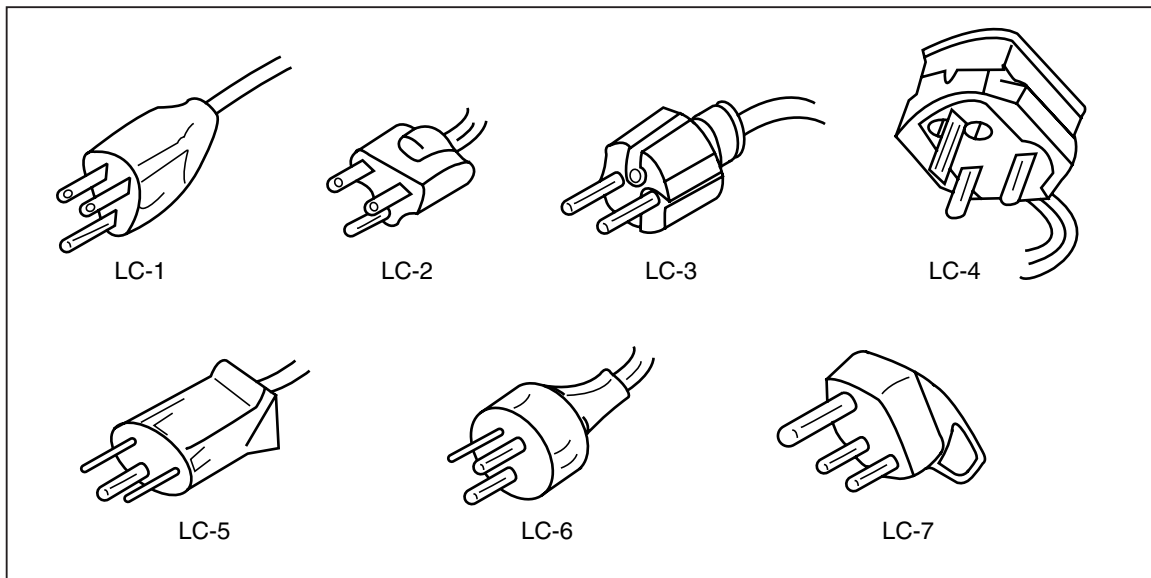

Figure 3. Line-Power Cord Types Available from Fluke
3. Connect the power cord to a properly grounded three-prong outlet. See Figure 3 for line-power cord types available from Fluke. Refer to Table 4 for descriptions of the line-power cords.